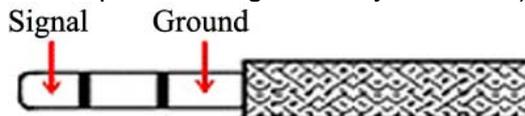

Fig.4. The polarity of jackplug of cable for external device connection.
3. If necessary with the help of a cable connect the "Output" (5) of AM-07 with a recording instrument (for example oscilloscope or analog-to-binary converter). Fig.4.